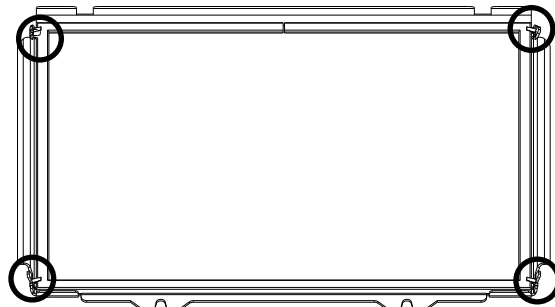

Figure 10.1. Bend the retainer tabs back enough to release the glass panel.
5. The glass panel is held in place by four tabs on the frame. Use a screwdriver or small pliers to pry these up enough to release the glass panel. See fig. 10.1.